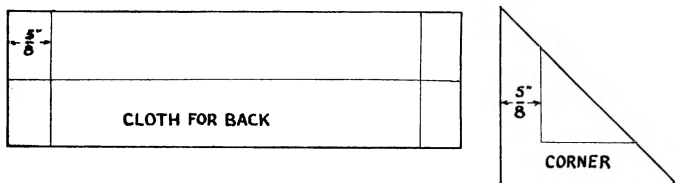

Fig. 23
25. Draw pencil lines on the reverse side of the cloth to indicate the position of the back fold and also the overlaps at the head and tail. Mark the overlap on the corners in the same way, fig. 23.